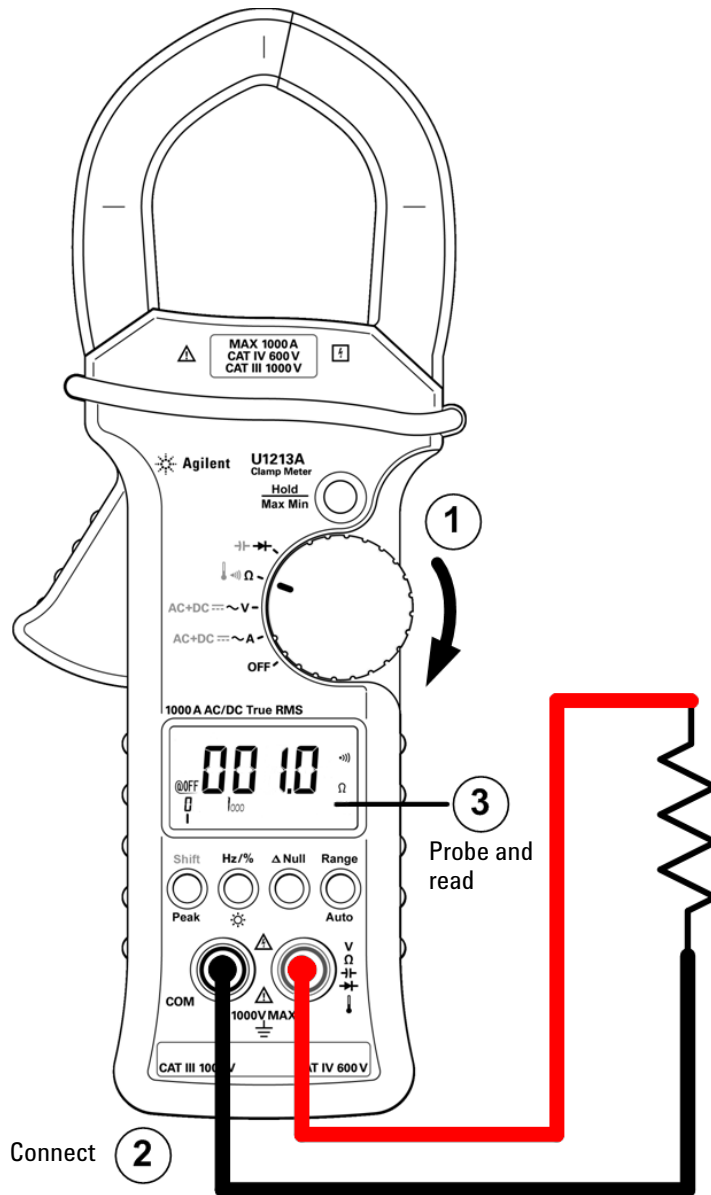

Figure 2-4 Continuity test
- 4 To perform continuity test, press **Shift** once (see Figure 2-4 on page 42). The buzzer will sound when the resistance is below 10.0  $\Omega$ .